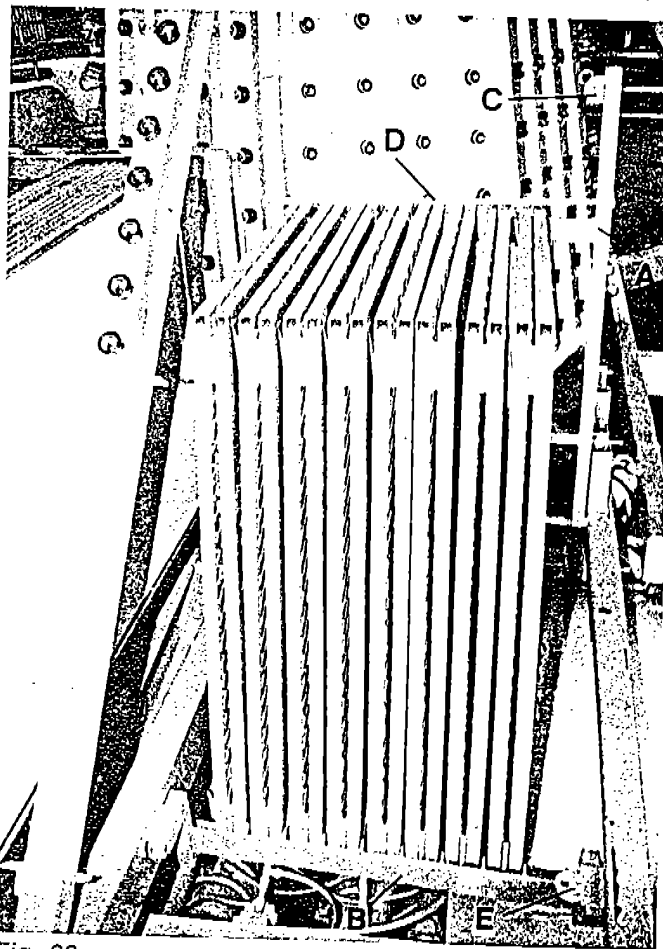

Fig. 60
- b. Replace the locking bar (d) between the two vertical legs of the standing rack section. (Refer to Fig. 60)
- d. Insert the pin at the top of the right vertical bar (c) into the ear on the side of the rotating platform frame bar (e). Snap key in place from under the ear. (Refer to Fig. 60)
- The inside fence storage rack is made up of two separate sections: a rack that is permanently fixed to the rotating platform frame bars with hinges (a) and a removable lower rack (b). (Fig. 60)
- Remove the key that secures the permanently fixed rack between the rotating platform frame bars. Raise the rack to a standing position. Replace the key in the same pin on the top of the right vertical leg of the rack (c). Remove the locking bar (d) from the vertical legs of the standing rack section. (Refer to Fig. 60)
- d. Once all the fence sections are stored, run the locking bar (d) through the hole in one vertical leg in the standing rack, across the tops of the fence sections and on through the hole in the other vertical leg. *Snap Key in Place.* (Refer to Fig. 60)